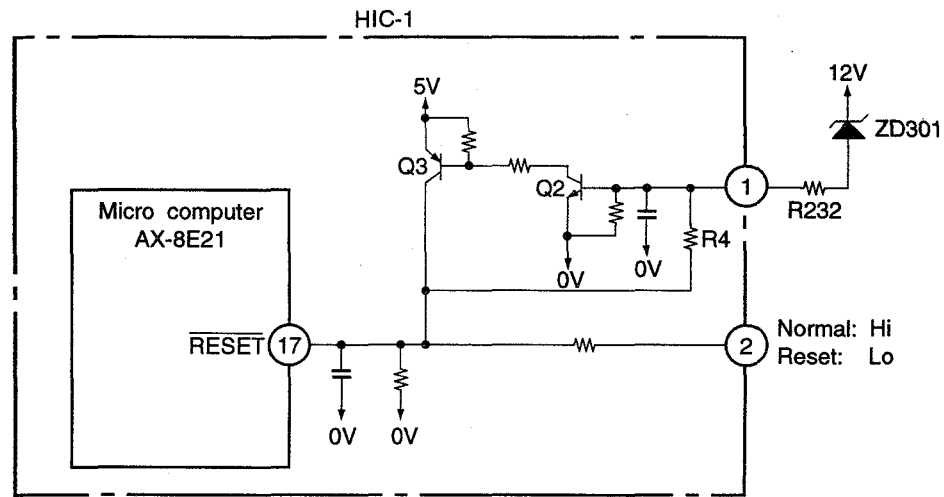
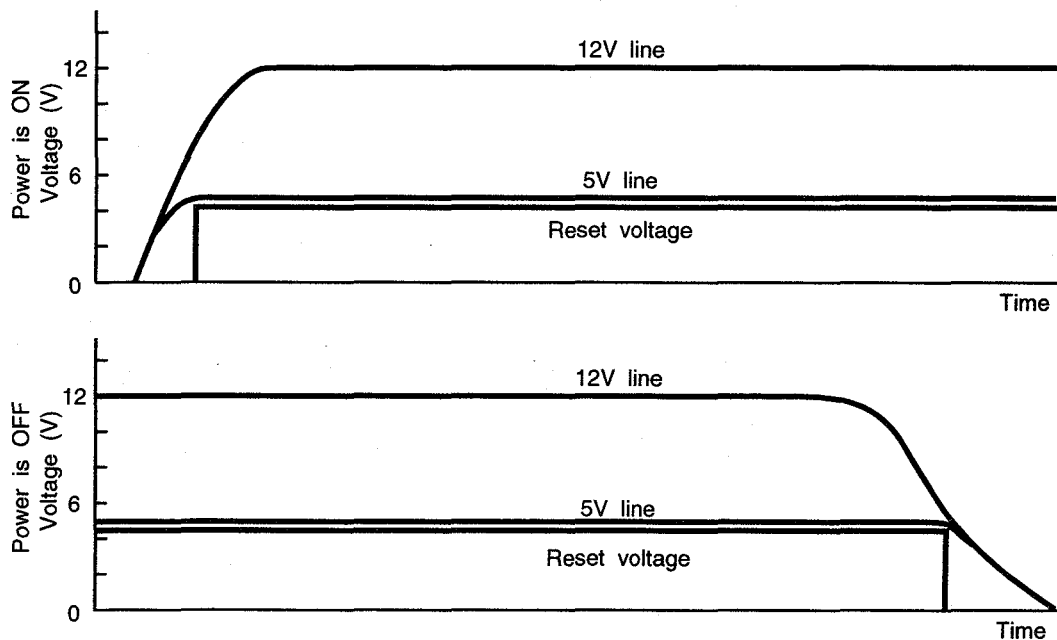

Fig. 11-1
Fig. 11-2
- Fig. 11-1 shows the reset circuit and Fig 11-2 shows waveform at each point when power is turned on and off.
- When power is turned on, 12V line and 5V line voltages rise and 12V line voltage reaches 7.2V (Zener voltage of ZD501), ZD301 is turned ON, Q2 and Q3 are turned ON and reset voltage input to pin ⑰ of microcomputer is set to Hi. By ZD501, reset voltage maintains input of pin ⑰ at Lo until  $V_{DD}$  of microcomputer rises to 5V to obtain operable status.